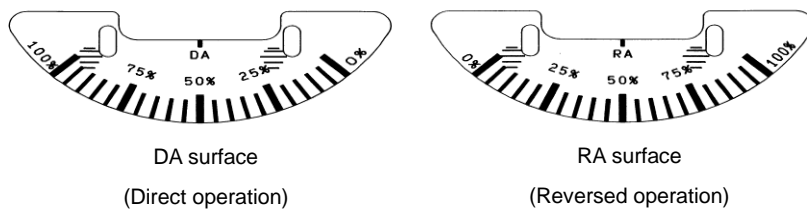

Fig. 47
- (1) After adjusting the positioner zero/span, mount the scale plate to DA surface (Direct operation) or RA (Reversed operation) in correct direction (See Fig. 47).